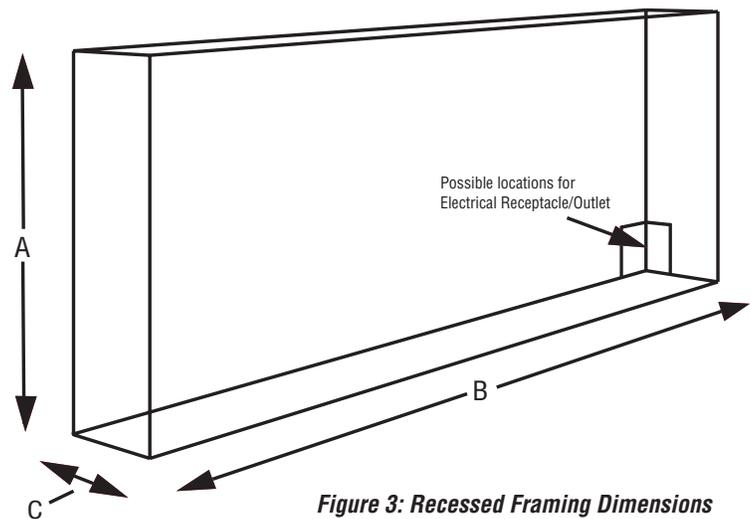
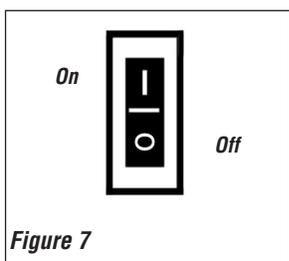

Figure 3: Recessed Framing Dimensions
Figure 7
These Electric Fireplaces offer a recessed installation (see **Figure 3**) that gives the fireplace a more distinguished appearance.
1. Complete the framing opening to the dimensions specified in **Figure 3**. Disable the blower as shown in **Figure 5**. Insure that the fireplace is in the off position (see **Figures 7 and 8**).
1. Prepare the wall recess and electrical receptacle as see in **Figure 3, Page 4**. It may be necessary to shem the wall bracket to the wall forming the rear of the recess to meet the minimum distance from the bracket to the appliance (see **Figure 7**).
This appliance can be activated using the fireplace and heater On/Off Switch (see **Figures 7 & 8**) or by using the remote control when the unit power switch is already in the "ON" position.